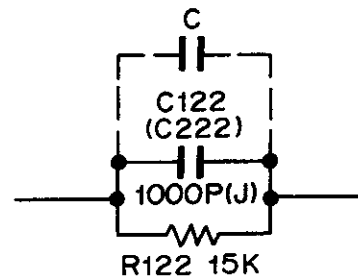

Fig. 7.13
**(1) For ZX Tape**
- (b) Feed in 10 kHz and 400 Hz (-20 dB) then record and play it back. Check the difference of the levels between 10 kHz and 400 Hz, and mount an additional capacitor in parallel with the C122 (C222) from the dip side of the printed circuit board depending upon the difference of the levels against 400 Hz. Refer to Fig. 7.13.